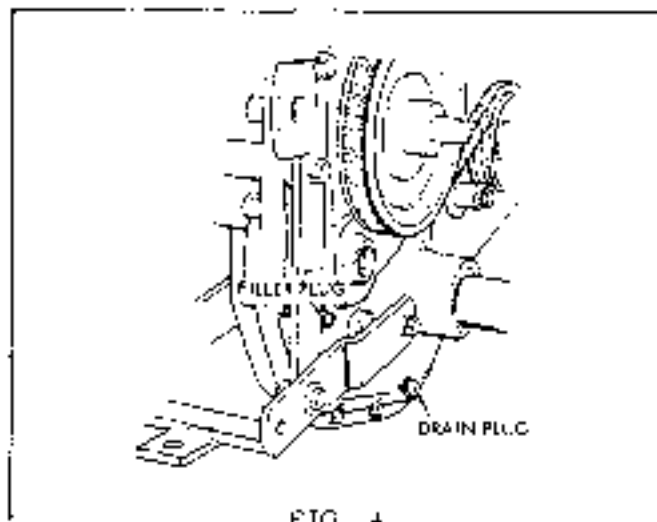

FIG. 4
The transmission has a capacity of 1-1/2 qts. of SAE 90 oil and is filled at the factory. It will not normally require replenishment, but occasionally check drain plug for tightness and axle tube oil seals for leakage. Maintain oil level at lower edge of filler plug hole. Remove vent plug from top of transmission and allow oil to settle to normal level before checking. (See Fig. 4).
3. Adjust nut (D) to permit clutch link (E) to pivot freely without excessive play. (See Fig. 4).
4. Adjust nut (F) to permit clutch link (E) to pivot freely without excessive play and check to see that nut has at least $1-1/2$ " of travel before touching transmission case. (See Fig. 4).
6. To compensate for belt stretch or other variances it may be necessary to move idler pulley (G) Fig. 4 into the alternate hole provided in its lever arm.